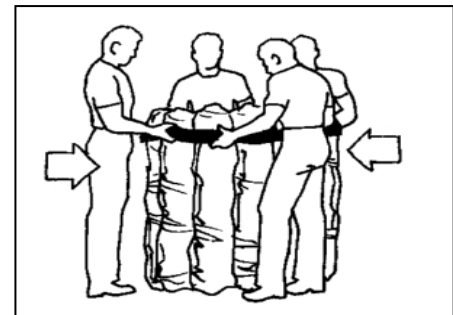

Figure 3-5. Secure First Cinch Strap
1. Once the shelter has been compressed, secure one of the cinch straps around the top section of the shelter, approximately 1 ½ ft from the top of the shelter (see Figure 3-5).